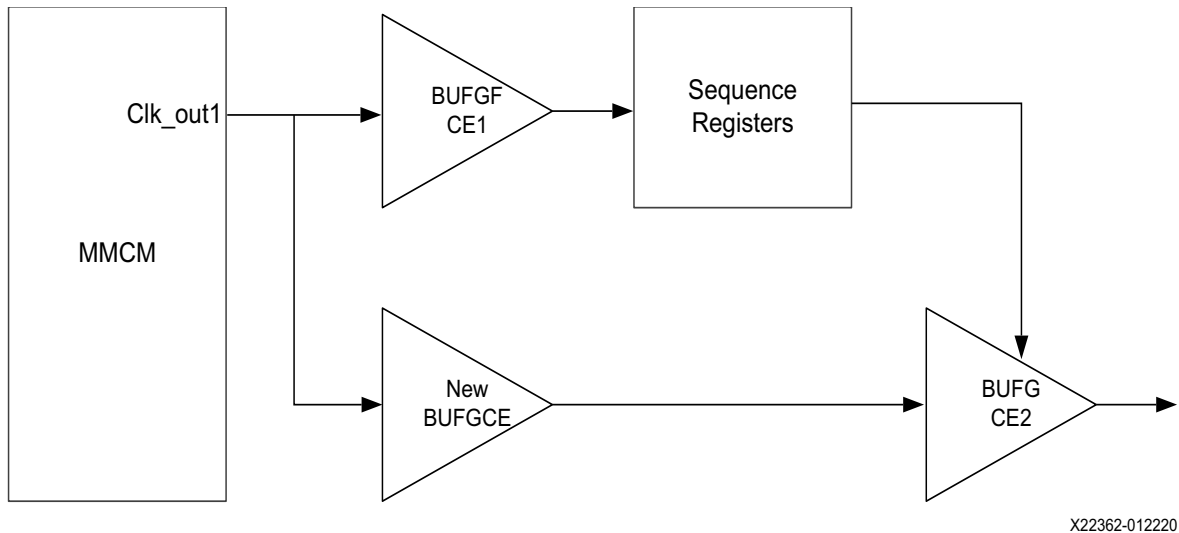

Figure C-1: Safe Clock Startup Failing Path
1. Add an additional BUFGCE cascaded in the failing clock path along with the existing BUFGCE in safe clock startup path. Figure C-1 shows the failing path for the clk_out1. Insert New BUFGCE between MMCM and the BUFGCE2 as shown below.